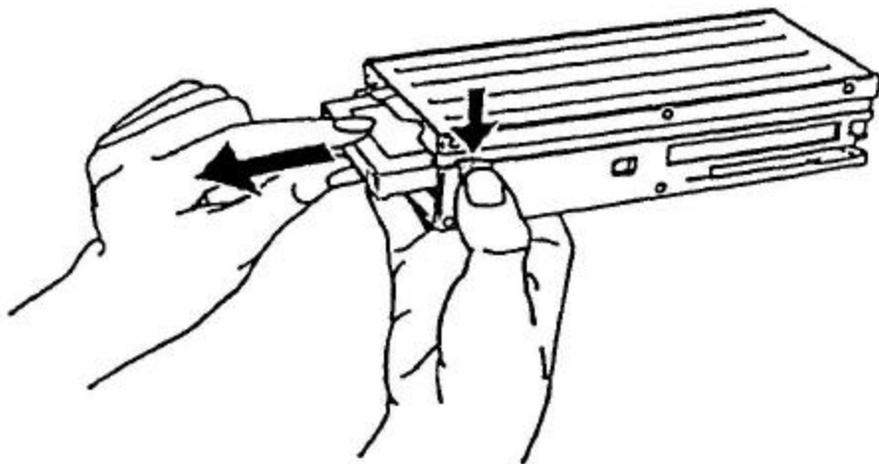

Figure 3-12. Removing cartridge from middle shelf
6. Finally, remove the cartridge in the middle shelf, see Figure 3-12.